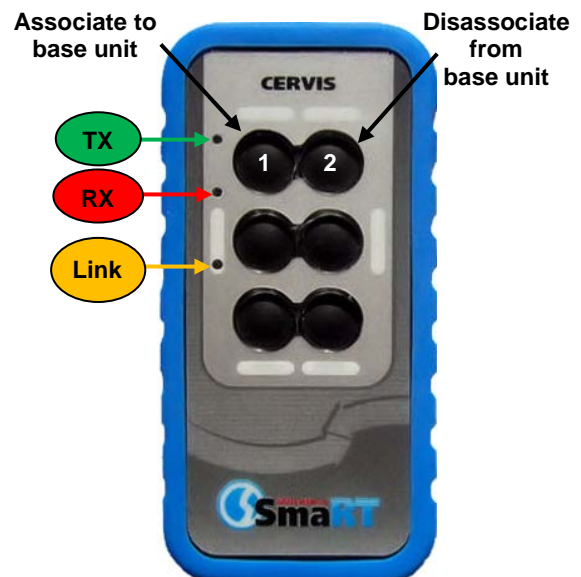

Figure 9. Associate/Disassociate Buttons
An interlock is present in the default configuration for outputs that prevents an output from activating if the adjacent button on the hand-held is pressed at the same time as the intended button. Once the SmaRT PTO-906 remote (Figure 9) is associated to the base unit (see Heading 3.1), outputs when properly wired respond and are indicated by the base unit Output LED as follows:
3. Simultaneously press and hold Button 1 (Associate) and Button 2 (Disassociate) (see Figure 9). The TX LED lights steady green.
5. When the LINK LED flashes amber, release the two buttons. The RX LED flashes red allowing two (2) seconds for you to make the next button press.
6. Press and hold Button 1 (Associate; see Figure 9). The RX LED extinguishes. The TX LED lights steady green and the LINK LED lights steady amber.
In some circumstances it may become necessary to break the communication link, or disassociate a base unit and a handheld. The Disassociation procedure is almost identical to the Association procedure, except the Disassociate button—Button 2 in Figure 9—is used in step 6 instead of the Associate button—Button 1.
3. Press and hold both Associate (Button 1) and Disassociate (Button 2; see Figure 9). TX lights steady green.
5. When LINK flashes amber, release both buttons. The RX button flashes red allowing two (2) seconds for you to make the next button press.
6. Press and hold the Disassociate button. (See Figure 9 above.) The RX extinguishes. The TX lights steady green and the LINK LED lights steady amber.